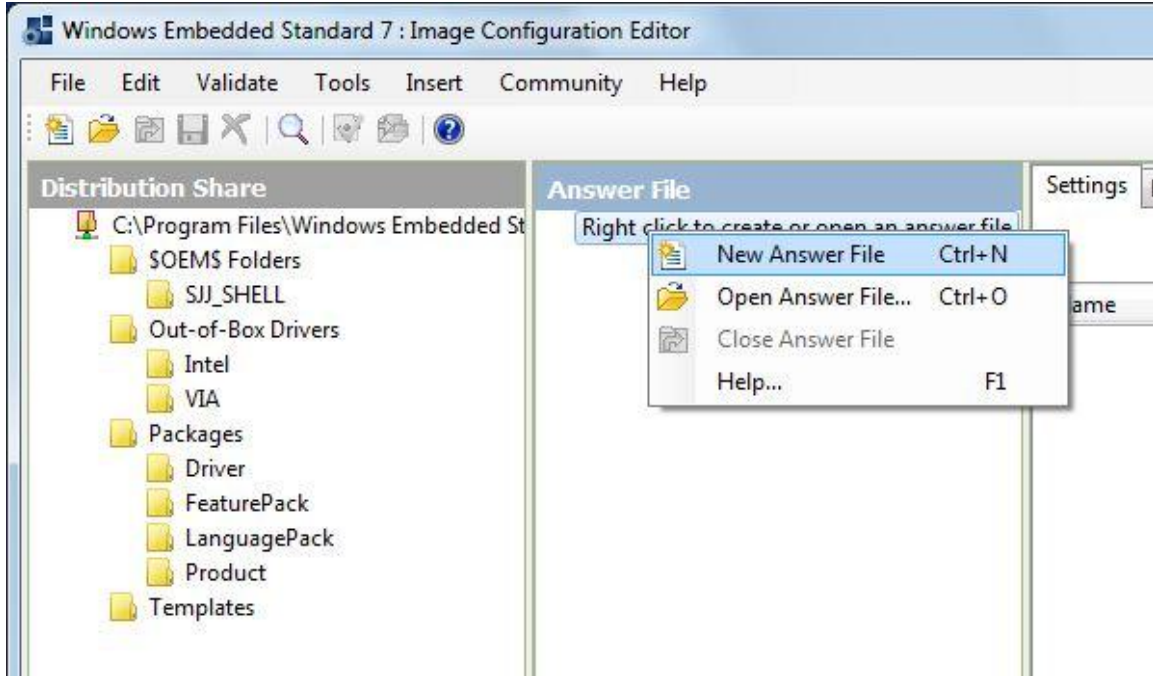

Figure 5-3 - Create New Answer File
2. In the Answer File pane, right click and create a new answer file, Figure 5-3.